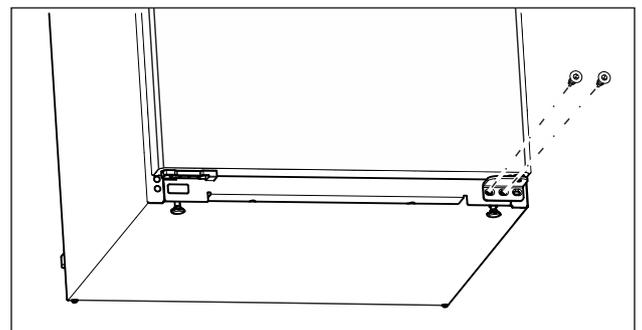

Fig. 15
- ▶ Unscrew the middle screw on the lower swap bearing block using a Torx 20 screwdriver. (see Fig. 15)
- ▶ Unscrew the inner screw on the lower swap bearing block using a Torx 20 screwdriver. (see Fig. 15)